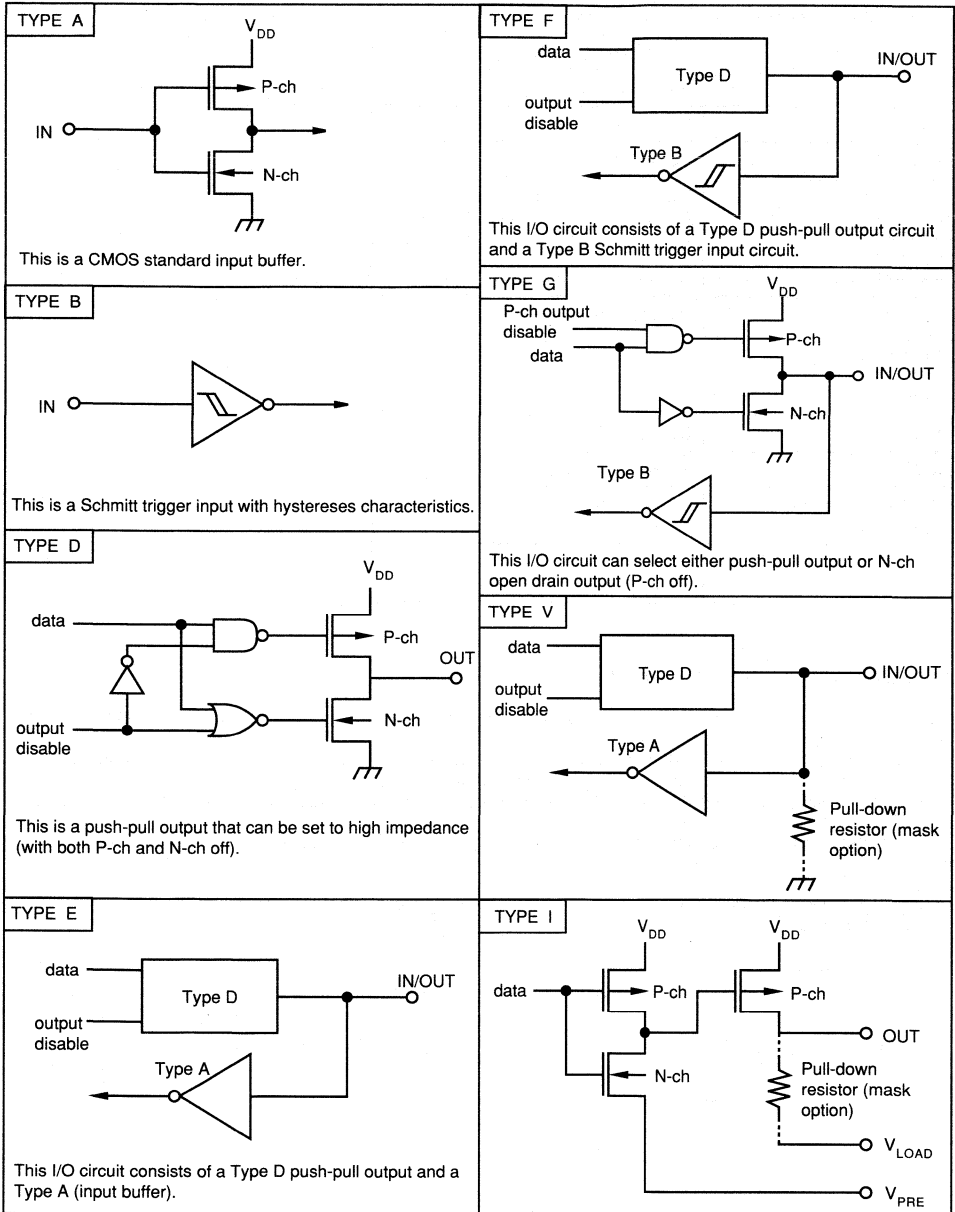

Fig. 2.1-1 Pin I/O Circuit
The MBS register is used to select a specific memory bank. On the μPD75268, values 0, 1, or 15 can be preset into this register. The MBE flag specifies whether the bank selected by the MBS register is to be made valid or not. If the MBE flag is reset (zero), a fixed memory bank is selected with no regard to the MBS (see Fig. 2.1-1). If the MBE is set (1), memory bank can be changed by the MBS setting to expand the data memory space. For addressing data memory space, the MBE flag is usually set (1) and the data memory area in the memory bank specified by the MBS is manipulated. Efficient programming is possible by using the MBE=0 and MBE=1 modes adequately.